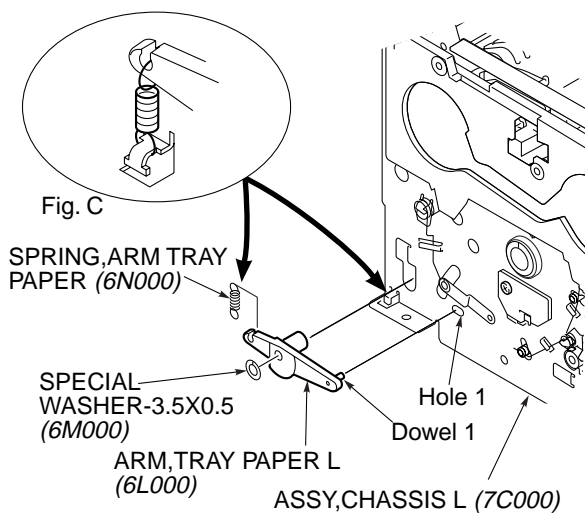
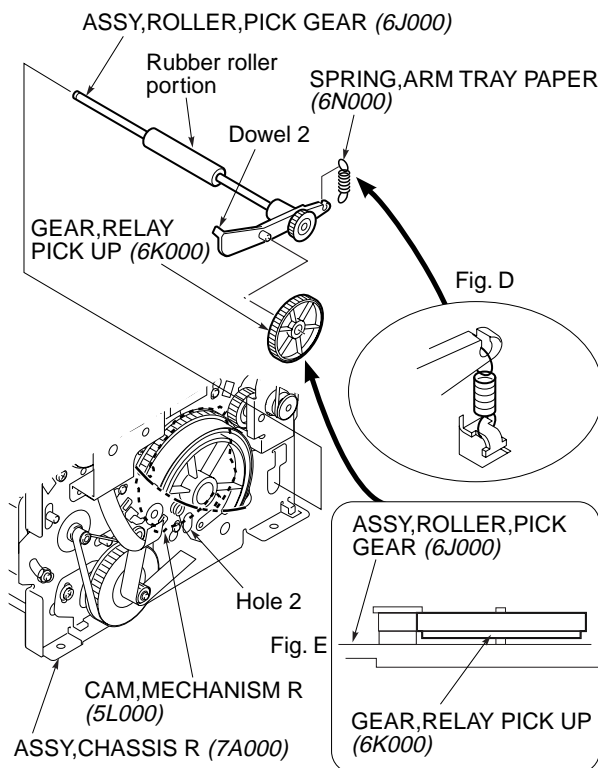

Fig. 3-5-1
Fig. 3-5-3
(See Figs. 3-5-1 to 3-5-3)
- 2) Remove the two "SPRING, ARM TRAY PAPER (6N000)". (Refer to Fig. 3-5-1 and Fig. 3-5-3.)
- 3) Remove the "SPECIAL WASHER-3.5X0.5 (6M000)". (Refer to Fig. 3-5-1.)
- 4) Remove the "ASSY,ROLLER,PICK GEAR (6J000)". (Refer to Fig. 3-5-3.)
- 5) Remove the "GEAR, RELAY PICK UP (6K000)". (Refer to Fig. 3-5-3.)
- 6) Remove the "ARM, TRAY PAPER L (6L000)". (Refer to Fig. 3-5-1.)
1. Align dowel 1 with hole 1 on the "ASSY, CHASSIS L (7C000)" and install the "ARM, TRAY PAPER L (6L000)" as shown in Fig. 3-5-1.
2. Install the "SPRING, ARM TRAY PAPER (6N000)" as shown in Fig. C of Fig. 3-5-1.
3. Pay attention to the direction of installation of the "GEAR, RELAY PICK UP (6K000)" and install it on the "ASSY, ROLLER, PICK GEAR (6J000)" as shown in Fig. E of Fig. 3-5-3.
4. Align dowel 2 with hole 2 and install the "GEAR, RELAY PICK UP (6K000)" to the "ASSY, CHASSIS R (7A000)" as shown in Fig. 3-5-3. At that time, be careful that dowel 2 is not placed over the "CAM, MECHANISM R (5L000)".
5. Install the "SPRING, ARM TRAY PAPER (6N000)" as shown in Fig. D of Fig. 3-5-3.